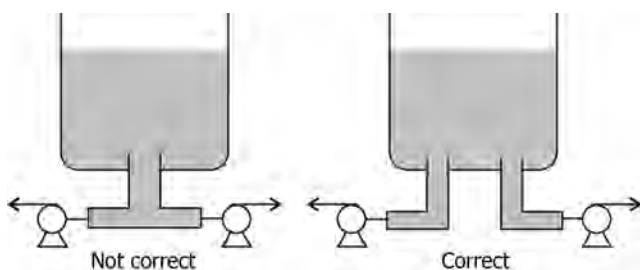

FIGURE 5.18 Two pumps draining liquid from a tank.
- When draining a tank with two pumps, one should not use a “T” with two connections. The dominant pump may asphyxiate the other pump. Each pump needs its own supply pipe as illustrated in Figure 5.18.